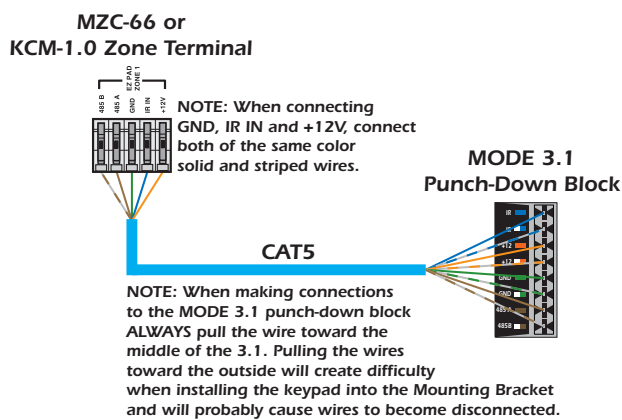
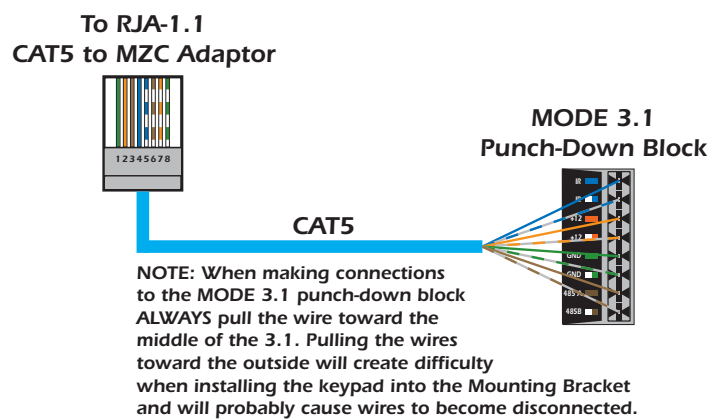

Figure 13
Figure 14
The MODE 3.1 features a four pair punch-down block that allows flexibility in wire options. CAT5 is recommended for typical use. The punch-down is color coded for CAT5 to assist in making connections. When making direct connections to the MZC, be sure to confirm color coding of each wire before making connections. (Refer to **Figures 13**)
For convenience, SpeakerCraft **RJA-1.1 RJ45 to MZC Adapters** can be used. The RJA-1.1 will convert the Zone screw-down terminals on the MZC, (or KCM-1.0 if using MZC-88) to RJ45 for ease of installation. Refer to **Figure 14** below for the RJ45 pin-out and configuration. **Do not use pre-configured 110 plug to RJ45 patch cables wired for T-568A Standard.** They do not have the proper pin-out on the RJ45 connector and will cause serious damage to the MODE 3.1.
3. Terminate and connect the head-end connection as appropriate. If connecting **directly** to an MZC or KCM-1.0, Refer to **Figure 13**. If terminating in **RJ45 Connectors** and using **RJA-1.1s** Refer to **Figure 14**. Confirm all connections prior to powering up the system.